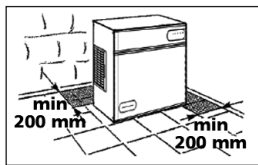

Fig. 3.
e) Machine is away from sources of heat and in a sufficiently ventilated area. A distance of at least 20cm must be allowed between the sides and back of the machine from the walls (Fig.2, Fig.3).